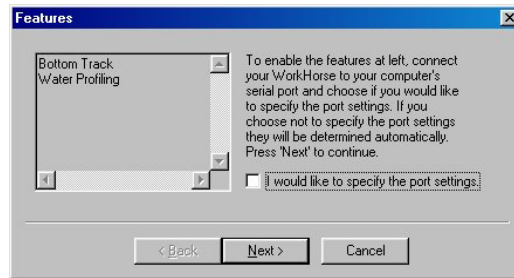

Figure 33. Installing Feature Upgrades
- d. In the **Open** box, type A:xxx.exe, where xxx is the H-ADCP’s CPU serial number. The installation program will start (see Figure 33). The program is encoded with the H-ADCP’s serial number and the requested feature upgrade.